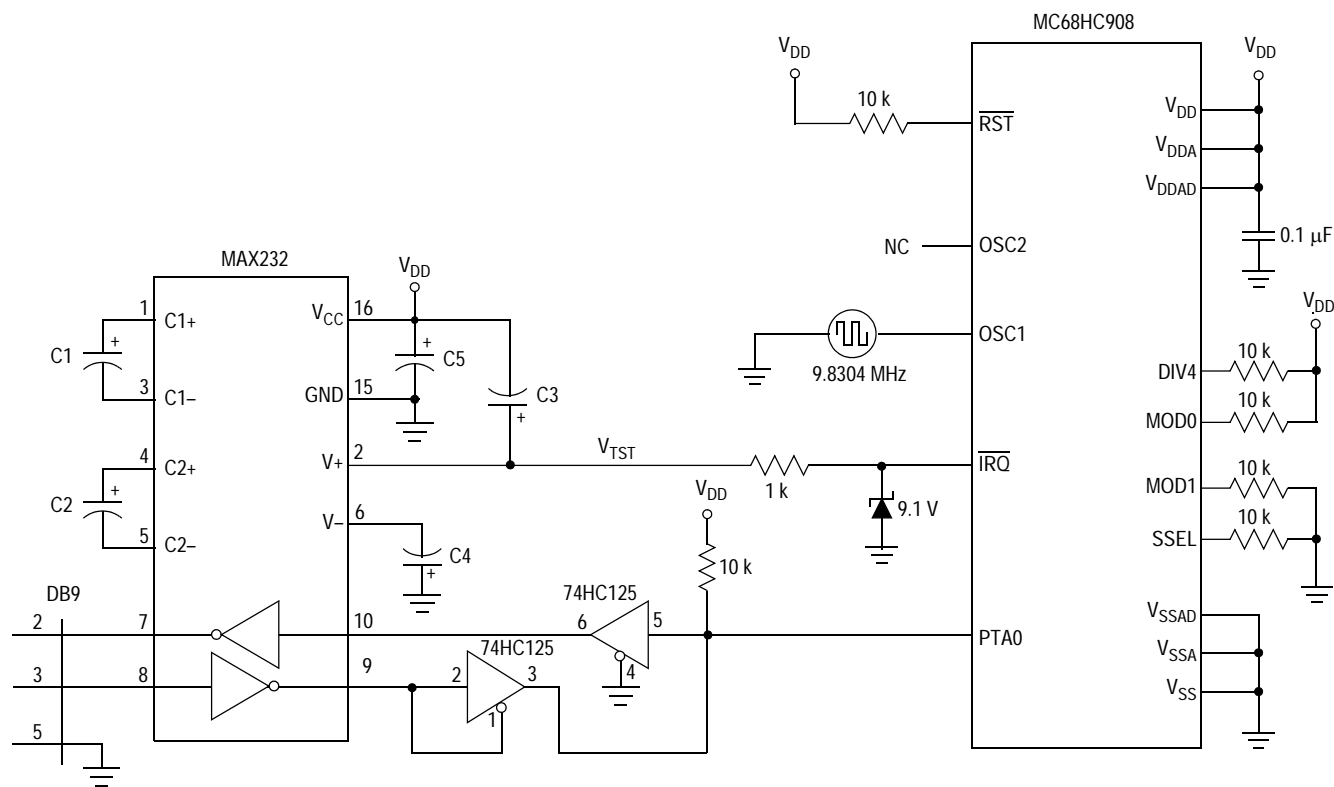
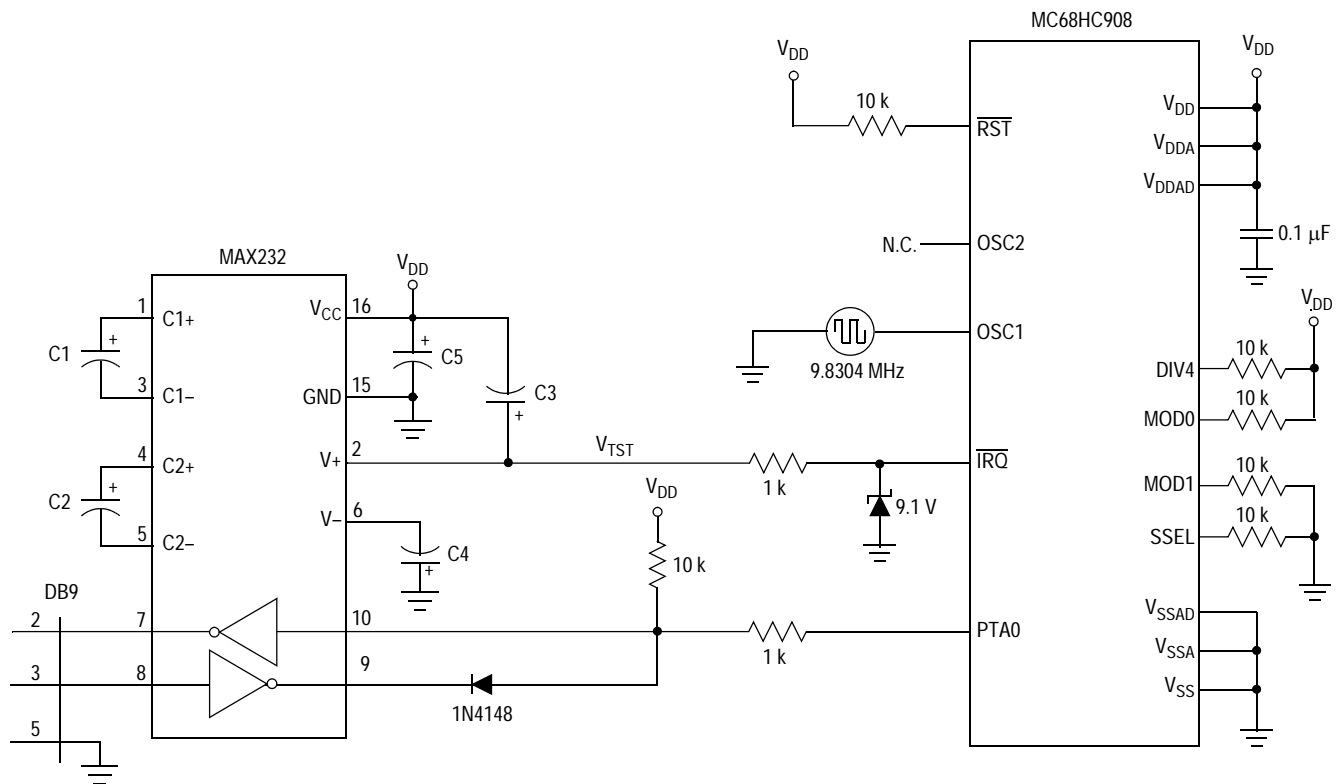
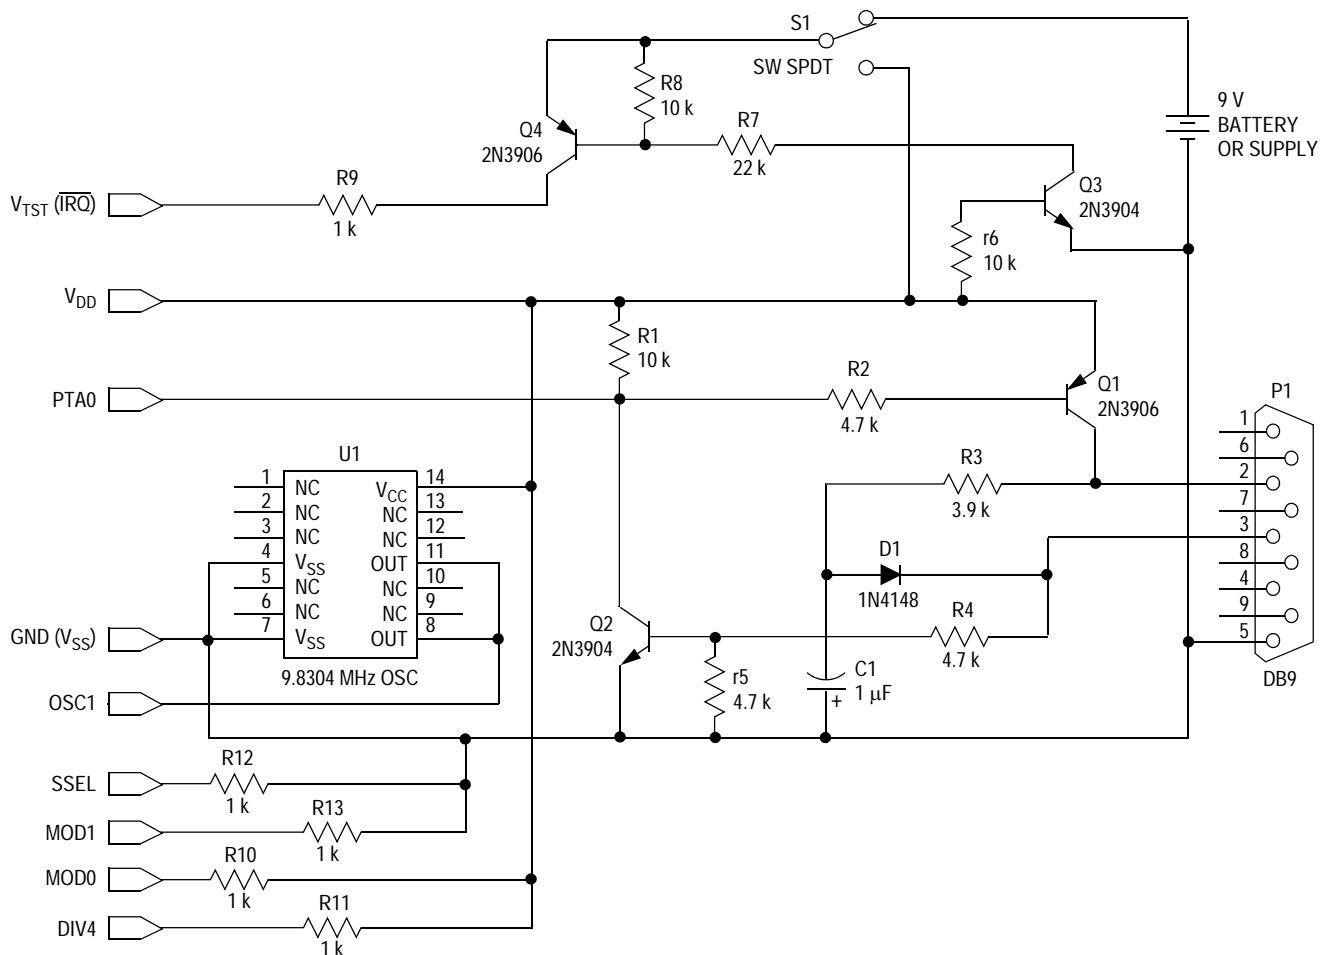
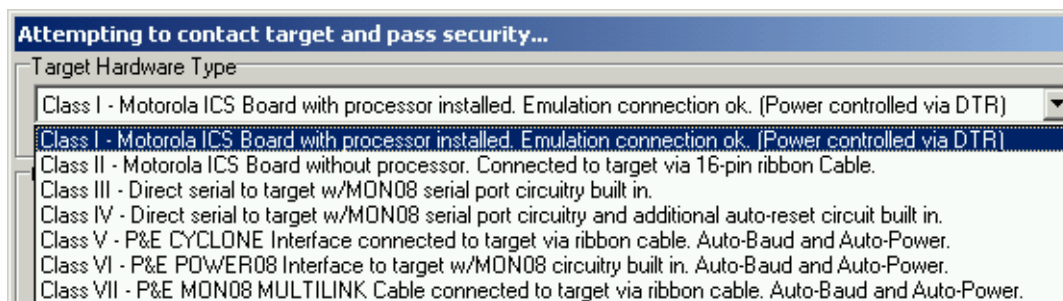

Figure 4. Normal Monitor Mode Circuit
Figure 5. Simpler Monitor Mode Circuit
Figure 7. Low-Cost MON08 Interface
Figure 10. Hardware Selection in P&E PROG08SZ
The normal monitor mode circuit in most M68HC08 data books looks something like that shown in Figure 4. The circuit to the left of the MCU in Figure 4 shows the MAX232 serial level shifter and the 74HC125 buffers that provide the bidirectional data switching for the serial communications on port PTA0. This portion can be used a stand-alone pod for monitor mode communication with many M68HC08 variants. Notice that we use the V+ supply from the MAX232 to provide the V_{TST} voltage for the \overline{IRQ} pin. The signal generator in the middle of the figure is usually a canned oscillator which can also be placed in the stand-alone pod.
A simpler implementation of the monitor mode circuit of **Figure 4** is shown in **Figure 5**. The two 74HC125 buffers are replaced by a resistor and diode. When PTA0 is outputting a 1, the input at the MAX232 pin 10 is held high. When PTA0 is outputting a 0, the input at pin 10 is driven low. The RS232 level at pin 8 is idling low which drives pin 9 to a logic one. This high level is blocked by the diode so there is no bus conflict. As an input, PTA0 idles high whenever pin 9 is high. When the MAX232 pin 9 goes low, the diode provides the path to pull the PTA0 input low.
The MAX232 shown in **Figure 4** and **Figure 5** can be used to supply the high voltage (V_{TST}) for monitor mode entry. The V+ output of the MAX232 supplies about 9 V for the RS232 communications interface, which is adequate for monitor mode entry. A zener diode and current limiting resistor complete the V_{TST} supply. The \overline{IRQ} pin draws about 200 μ A from the V_{TST} supply when monitor mode is selected.
Another way to get the V_{TST} voltage is by switching a 9 V battery or power supply to the \overline{IRQ} pin. An example of a switching circuit is shown in **Figure 7** below. The supply voltage should be limited to 9 V to meet the V_{TST} spec. The 1 k Ω series resistor (R9) is a simple current limit for the V_{TST} supply.
Figure 7 shows another implementation of a custom MON08 interface. This circuit was modified from a low-cost RS232 interface found on several Internet sites. The central part of the circuit, composed of transistors Q1 and Q2, diode D1, capacitor C1, and resistors R1 – R5, is a simple level shifter between the 0 V and 5 V levels on the PTA0 pin and the –8 V to +8 V levels from the PC's serial port. This circuit actually transmits –5 V to +5 V levels due to the negative pull down at C1 and V_{DD} pullup at Q1. Q1 and Q2 can be any general-purpose PNP and NPN transistors, respectively. Resistor R3 can be trimmed to provide the best negative voltage swing for the transmitter signal at the DB9's pin 2.
The bottom part of the circuit in **Figure 7** is an optional way to route the appropriate levels for monitor mode selection to a target system that requires the external bias.
P&E's ICS08 software packages contain the WinIDE integrated development environment, which pulls together an assembler, in-circuit simulator, memory programmer, and in-circuit debugger. The programmer and debugger work with any MON08 hardware interface, as shown in the target hardware type menu in **Figure 10**. Class III is used with the MON08 interfaces in **Figure 4**, **Figure 5**, and **Figure 7**, above. Classes V and VII are used with the Cyclone and Multilink pods, respectively.
The following examples illustrate how to program and debug an M68HC908GT16 MCU with P&E's PROG08SZ and ICD08SZ tools. The MON08 pod in this example is a custom version of the circuit shown in **Figure 4**.
6. From Target Hardware Type, select Class III (see Figure 10).
Here are the main steps in programming the FLASH with CodeWarrior in normal monitor mode and starting a debug session. This example was built with PEDebug as the project stationery and QT4 absolute assembly. This example also uses the low-cost MON08 circuit from Figure 7 as the MON08 pod.
7. Select the appropriate class in Target Hardware Type (Class III for low-cost MON08 circuit from Figure 7) and baud rate.